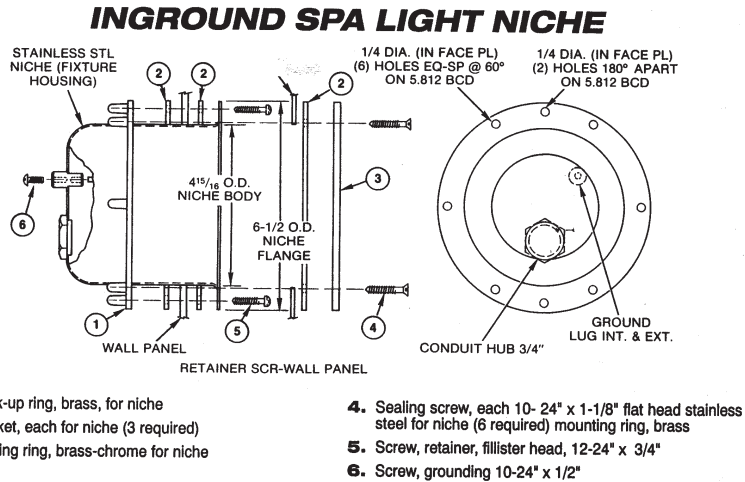

Figure 9. 3/4" Conduit Hub
4. Connect conduit to 3/4" hub located at the back of the light niche and run to a water resistant junction box no further than 25'. Remember this is a water cooled light, so conduit and all connections must be leak proof. (See **Figure 9**)